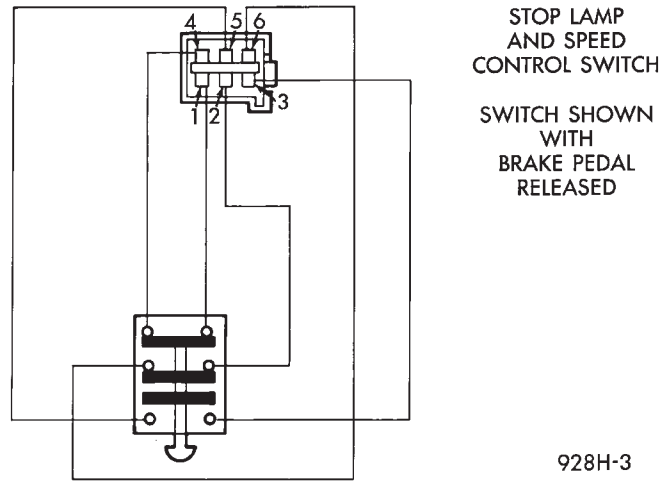

Fig. 10 Stop Lamp and Speed Control Switch Wiring
(1) Disconnect the six way connector at the stop lamp switch (Fig. 10). Using an ohmmeter, continuity may be checked at the switch side of the connector as follows: